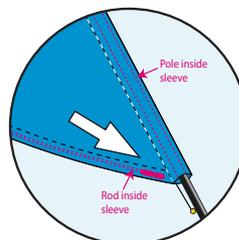
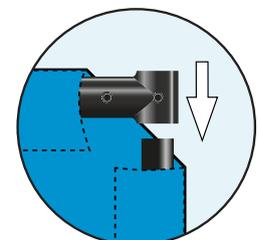

Fig 7.
Fig 8.
6. Push the carbon rod completely into the sleeve right down to the bottom, (Fig 7) this enables you to mount the arm T joint over the vertical 28mm pole section. (Fig 8)